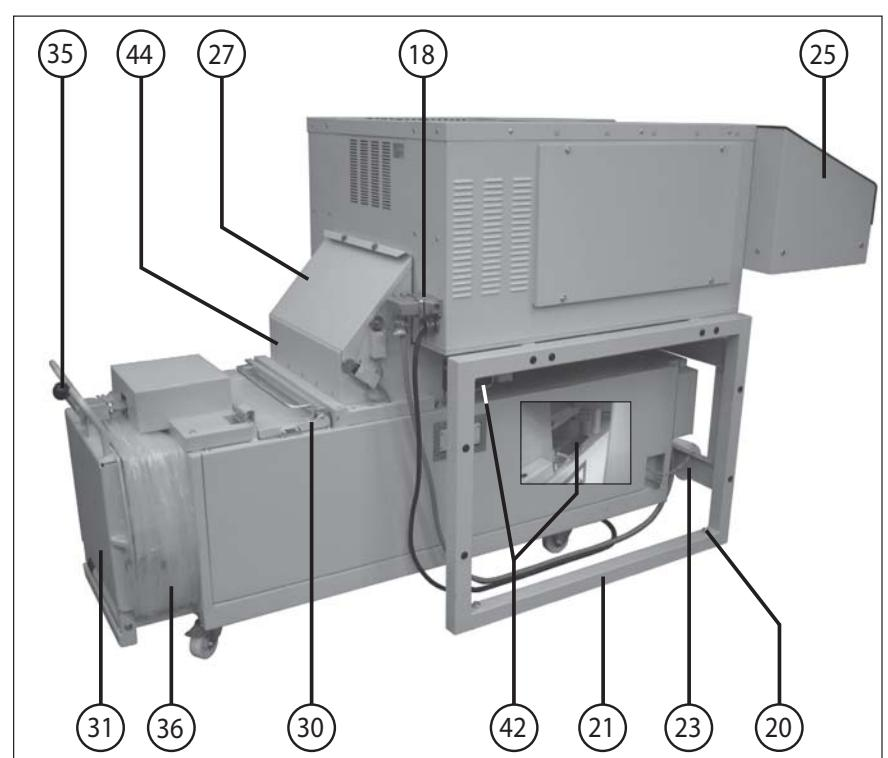

fig. 2
- 18 = electrical outlet (fig. 2)
- 20 = leveling screw (fig. 2)
- 27 = cover flap (fig. 2 and 5)
- 30 = inlet flap (fig. 2)
- 31 = discharge flap (fig. 2)
- 35 = locking lever (fig. 2)
- 36 = sack frame (fig. 2 and 14)
- 42 = angle bracket (fig. 2)